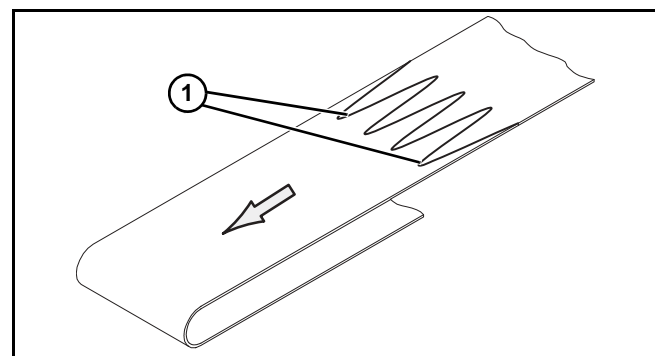

**Figure 73**
*On a center drive conveyors, belt travel direction is identified by an arrow decal on the side of the conveyor (**Figure 72, item 1**) & (**Figure 73, item 1**).*
1. Orient the conveyor belt so that the splice leading fingers (**Figure 74, item 1**) point in the direction of belt travel, indicated by the label (**Figure 73, item 1**).